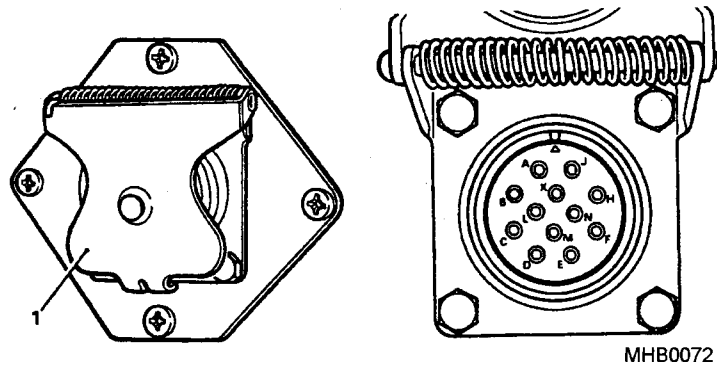

Fig 12 12-pin trailer socket operation
39 To use the socket, lift the cover (Fig 12 (1)) and insert the trailer plug pushing it fully home and the lip of the cover locates in the slot in the plug case.